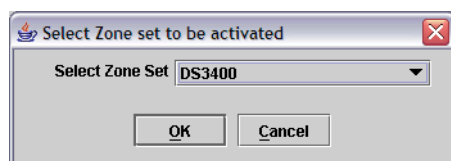

Figure 24-12 Select Zone Set to be activated
9. Select **Yes** and choose the zone set you want to enable (Figure 24-12). Select the zone set you have currently created and click **OK**.